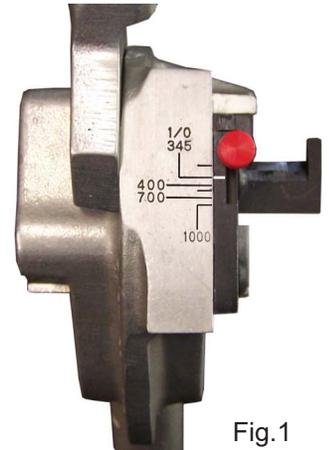

Fig. 1
2. Set blade holder to selected graduation mark on top surface of tool for conductor size of cable (Fig.1)